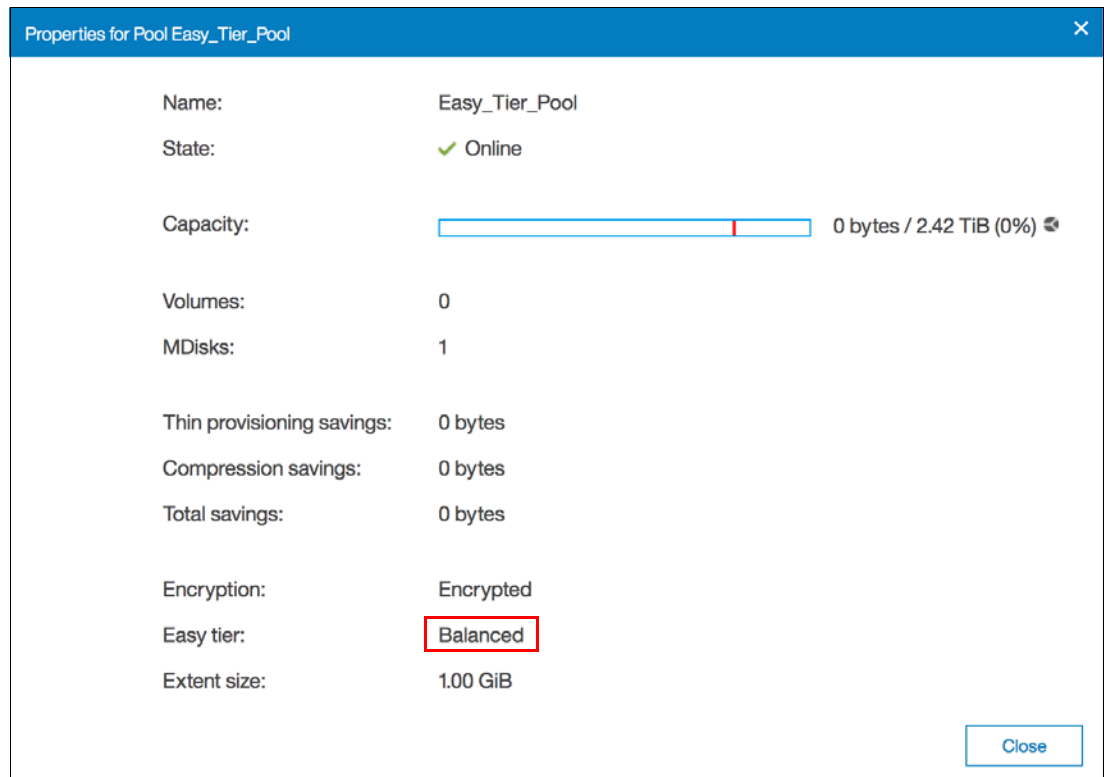

Figure 9-15 *Balanced easy tier status on Properties panel*
9. Select the pool to which the storage was added. Select **Properties** from the Actions Menu and click **View more details** in the Properties panel. Although the Easy Tier status of a single-tiered pool is kept as **Balanced** as shown in Figure 9-15, the pool will not benefit from the Storage Pool Balancing feature with a single MDisk.